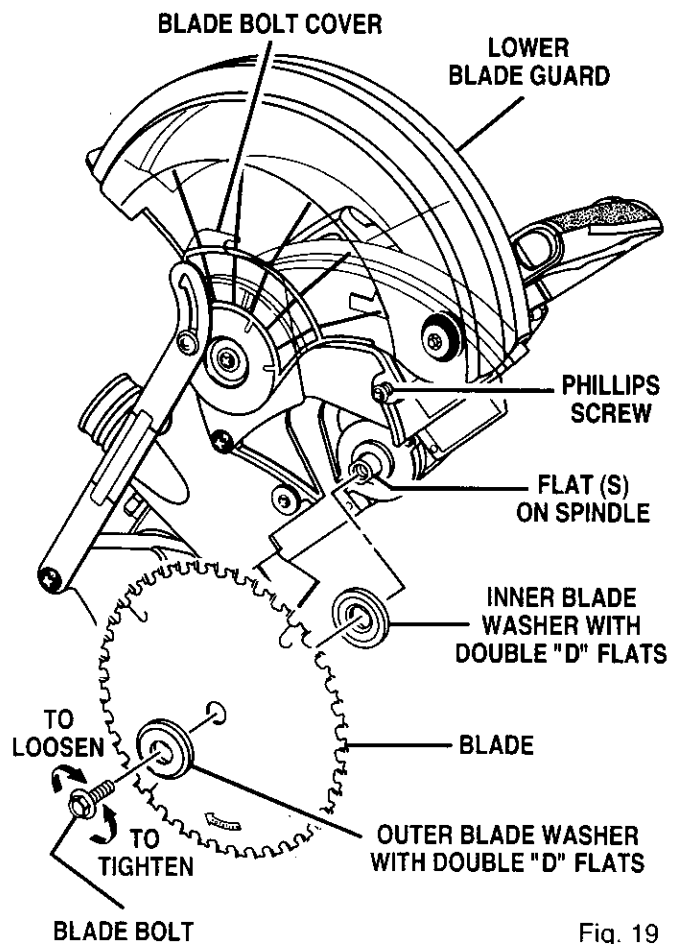

Fig. 19
- Fit saw blade inside lower blade guard and onto spindle. The blade teeth point downward at the front of saw as shown in figure 19.
- Retighten phillips screw securing blade bolt cover. Tighten screw securely. *See Figure 19.*